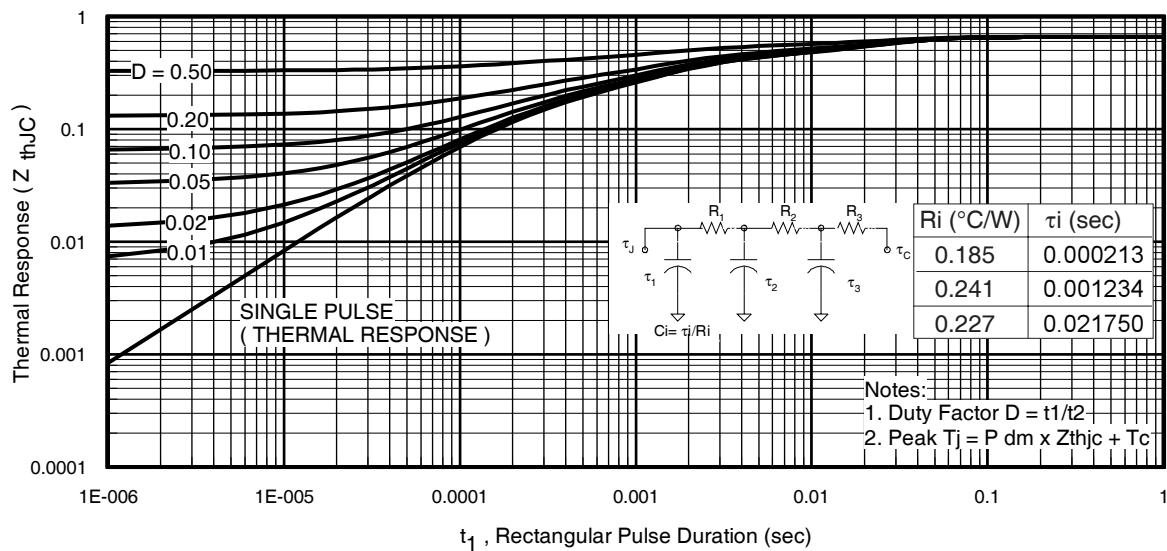
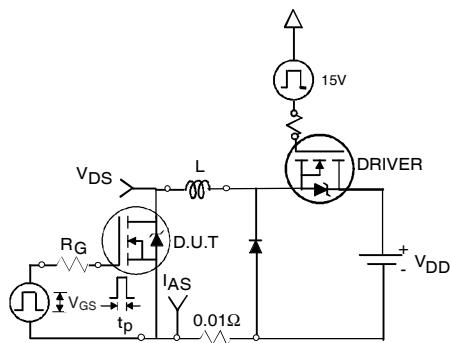

Fig 11. Maximum Effective Transient Thermal Impedance, Junction-to-Case
Fig 12a. Unclamped Inductive Test Circuit
| I_{AR} | Avalanche Current ① | See Fig.12a, 12b, 15, 16 | A |
- ① Repetitive rating; pulse width limited by max. junction temperature. (See fig. 11).
- ② Limited by $T_{J\text{max}}$, starting $T_J = 25^\circ\text{C}$, $L = 0.079\text{mH}$, $R_G = 25\Omega$, $I_{AS} = 75\text{A}$, $V_{GS} = 10V$. Part not recommended for use above this value.
- ③ Pulse width $\leq 1.0\text{ms}$; duty cycle $\leq 2\%$.
- ④ $C_{oss \text{ eff.}}$ is a fixed capacitance that gives the same charging time as C_{oss} while V_{DS} is rising from 0 to 80% V_{DSS} .
- ⑤ Limited by $T_{J\text{max}}$, see Fig.12a, 12b, 15, 16 for typical repetitive avalanche performance.
- ⑥ This value determined from sample failure population. 100% tested to this value in production.
- ⑦ This is only applied to TO-220AB package.
- ⑧ When mounted on 1" square PCB (FR-4 or G-10 Material). For recommended footprint and soldering techniques refer to application note #AN-994.
3. Equation below based on circuit and waveforms shown in Figures 12a, 12b.
$Z_{thJC}(D, t_{av})$ = Transient thermal resistance, see figure 11)